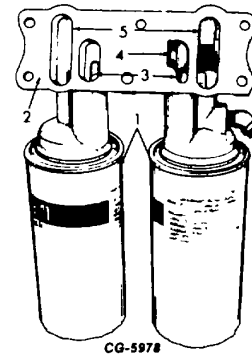

Figure 5. - Oil Filters and Filter Base
The oil filters (1, Fig. 5) are the full-flow type and are interconnected by common internal passages in the crankcase. One passage is for the inlet (3) and one for the outlet (5). The filters do not have internal by-pass valves. Instead, one by-pass valve (4) located in the filter base (2) controls the oil flow through the filters.